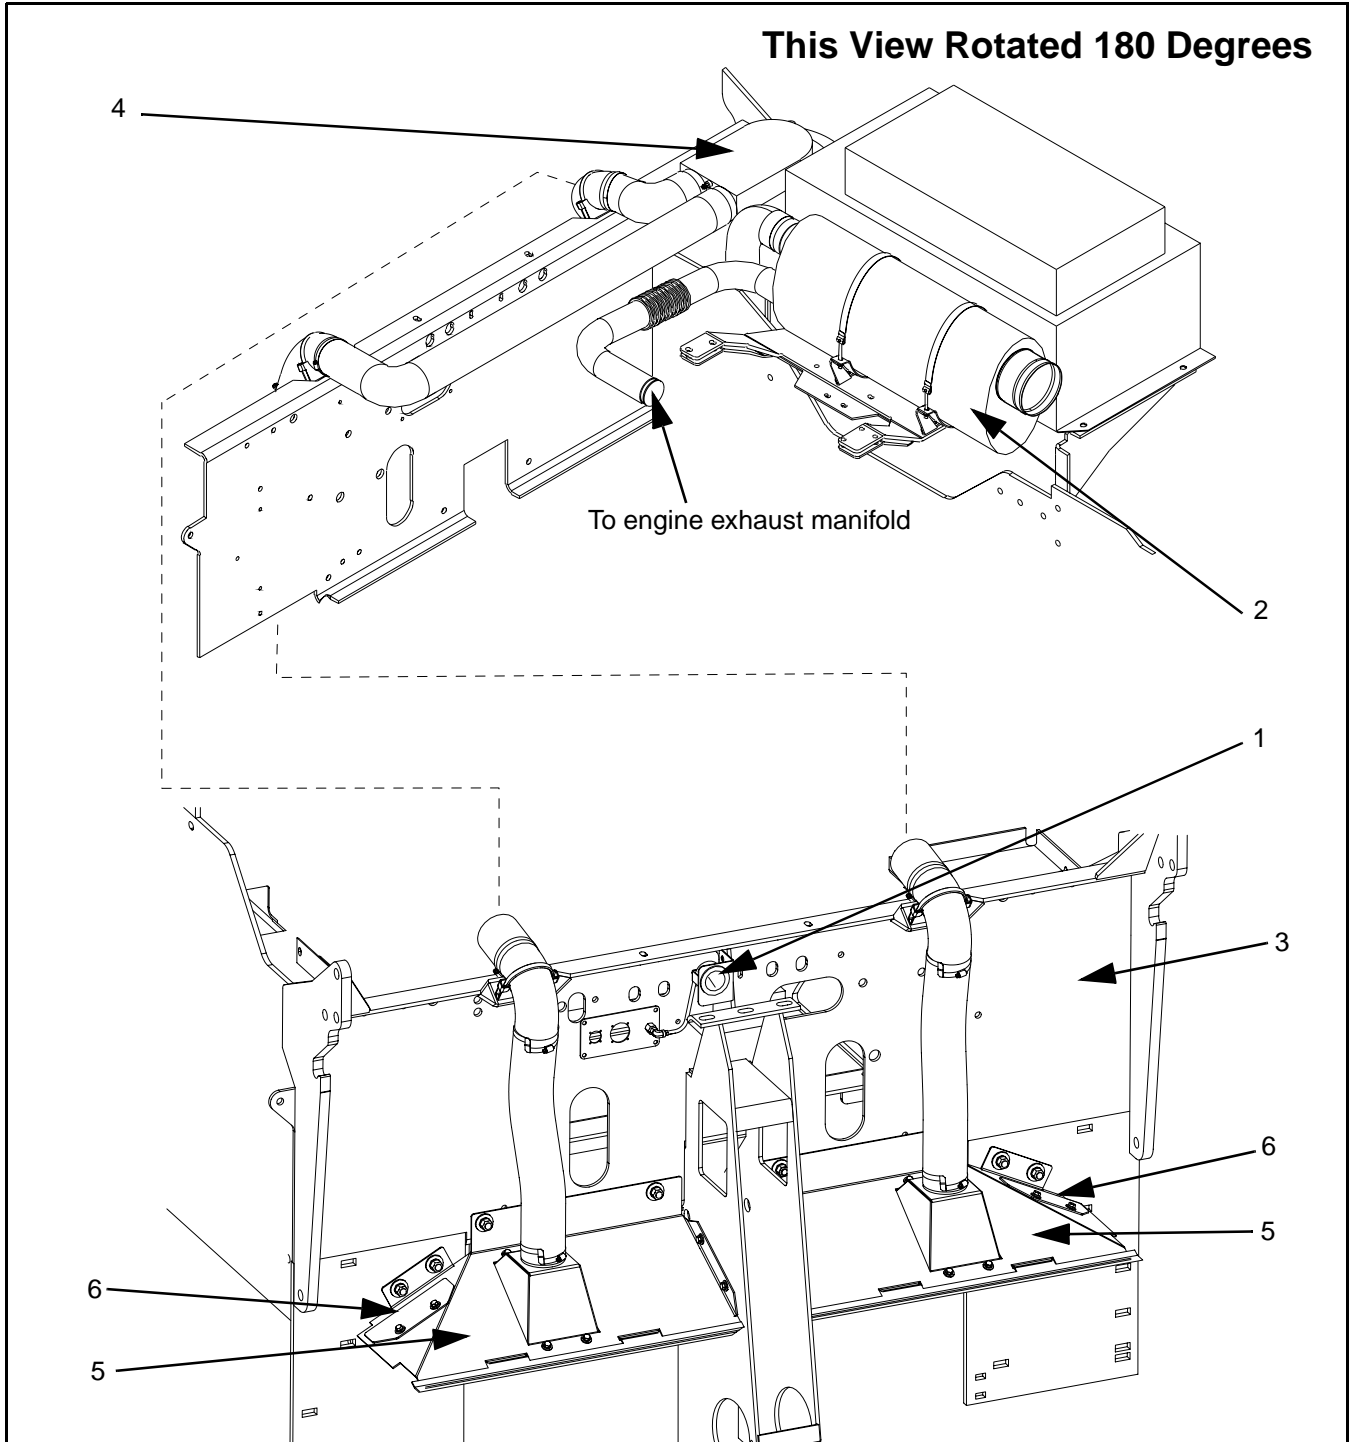

Figure 6 - 49 Fume Recovery System Components (Typical View)
- 1) Check hoses and tubes for cracks, cuts, dents, or collapsed spots. Cuts or cracks may be repairable with duct tape. Repair or replace tubes as needed (Figure 6 - 49).